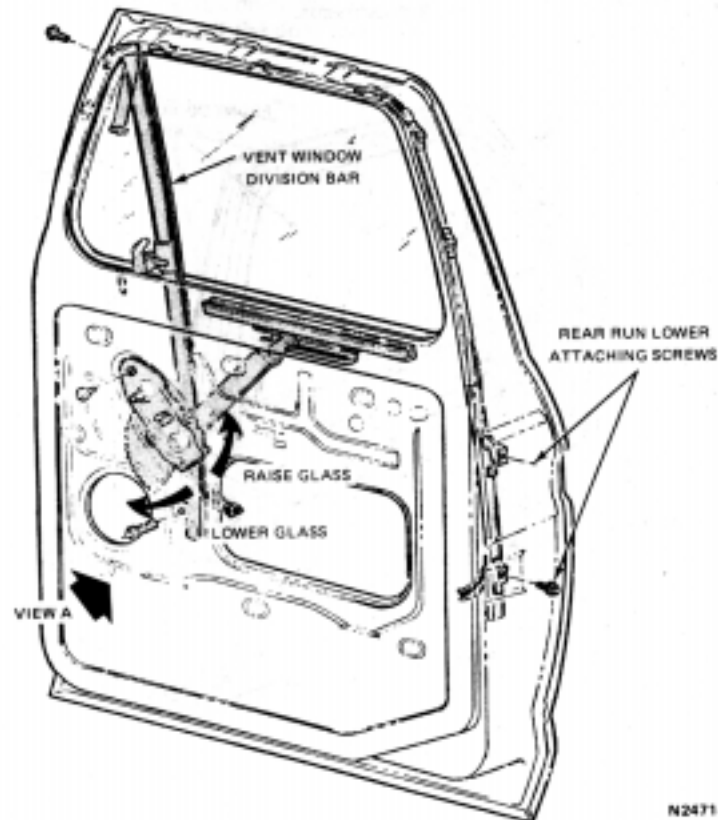

FIG. 3 Window Mechanism Adjustment—F-Series Truck
1. Loosen the screw at the lower end of the vent window division bar (Fig. 3).
2. Loosen the rear run two lower attaching screws (Fig. 3).